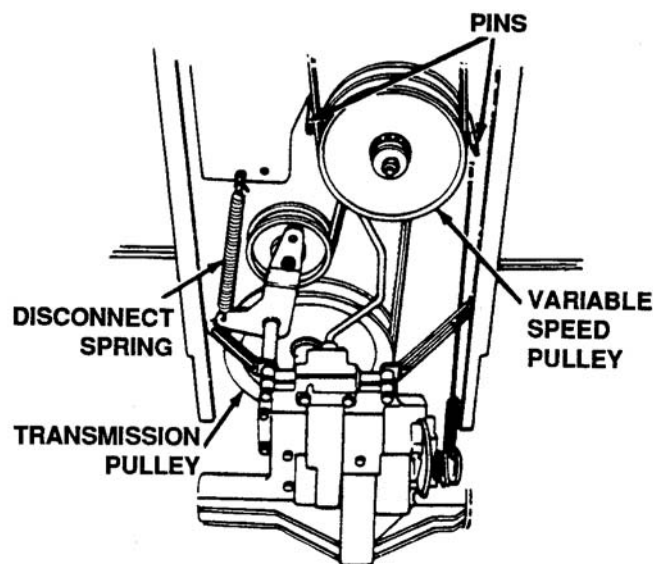

Figure 4-56. Location of Pins
- e. Remove the two pins which act as belt keepers by the variable speed pulley. See Figure 4-56.